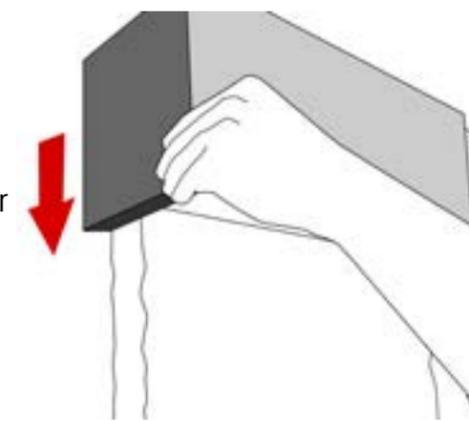

FIG. 6.1
1. Locate the Header and Shroud (G). Install the Header by simply sliding it into the support pockets located on the stone wall bracket (B). It may be a very tight fit so you may need to pull the disperser forward to allow for the header to slide down into the clip (Fig 6.1). Take a few steps back looking at the fountain and make certain the header is sitting level.